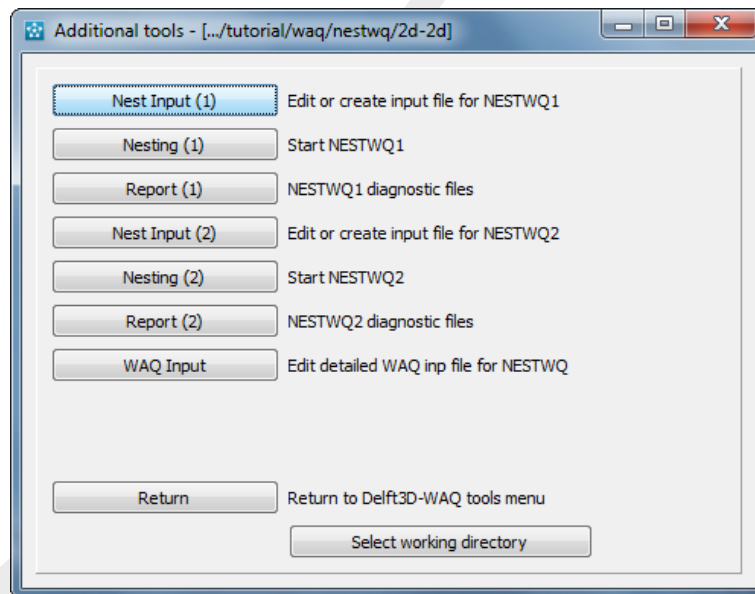

Figure 3.8: Selection window for **Additional tools**, nesting water quality models
- ◇ Click on *Nesting* to show the various steps in the nesting of water quality models, see Figure 3.8.
- ◇ Click on *Nest Input (1)*.